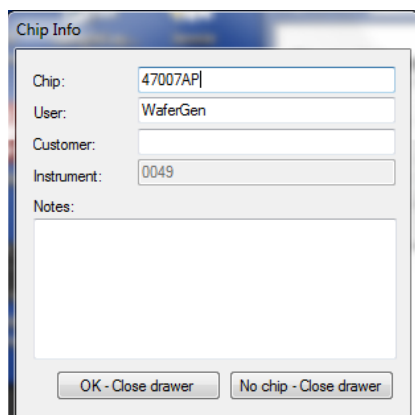

Figure 51. Chip Info dialog box.
4. The *Chip Info* (Figure 51) dialog box will open. Enter values for “Chip”, “User”, and other requested information. This information will be included in the analysis files and Summary report.